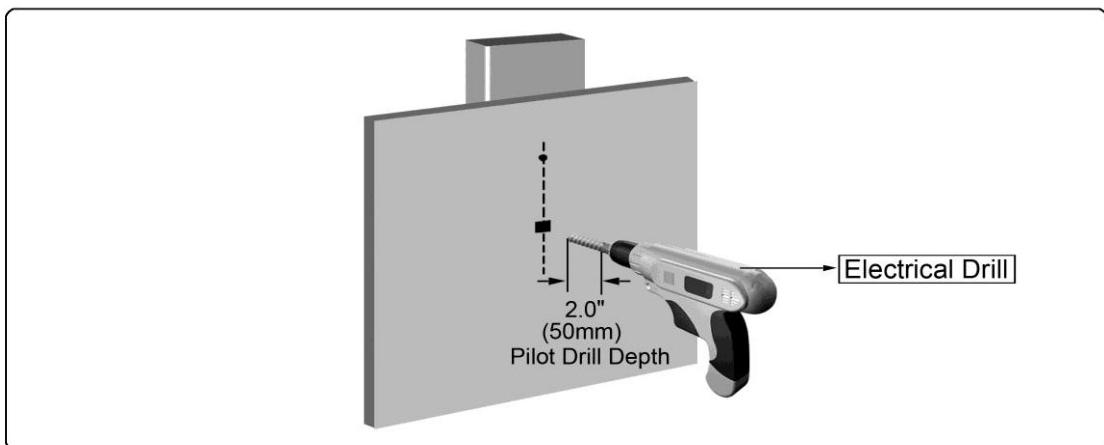

Figure 1-3
3. Use awl or stud finder to find stud location. Ensure marks are in the center of wood stud. Drill pilot holes and ensure pilot holes are straight (See Figure 1-3).